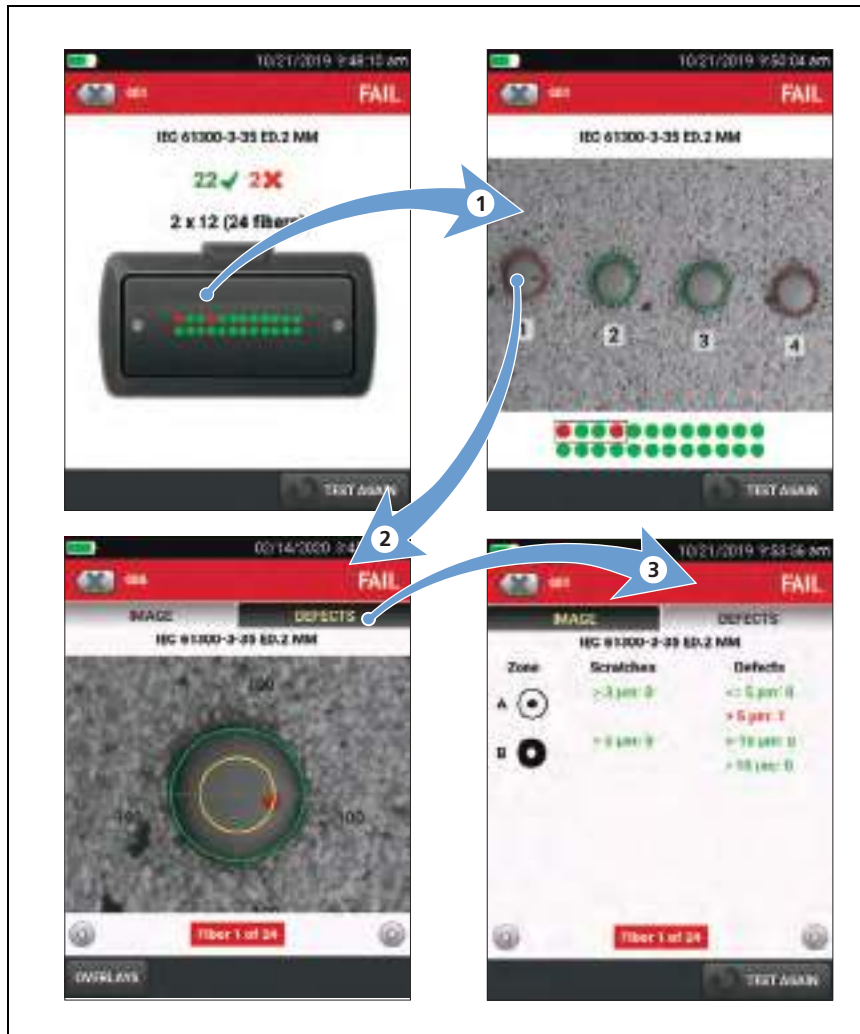

Figure 49. Image Analysis Screens (MPO shown)
- ① If necessary, to see an image of the endfaces, tap on the image of the connector. See Figure 49.